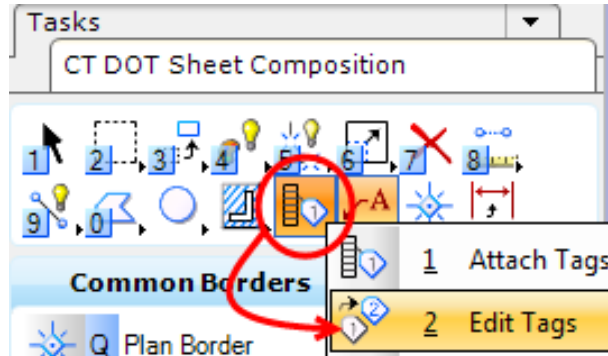

Figure 54 - Edit Tags
1. From the main tool box select **Tags** → **Edit Tags**. (Figure 54)